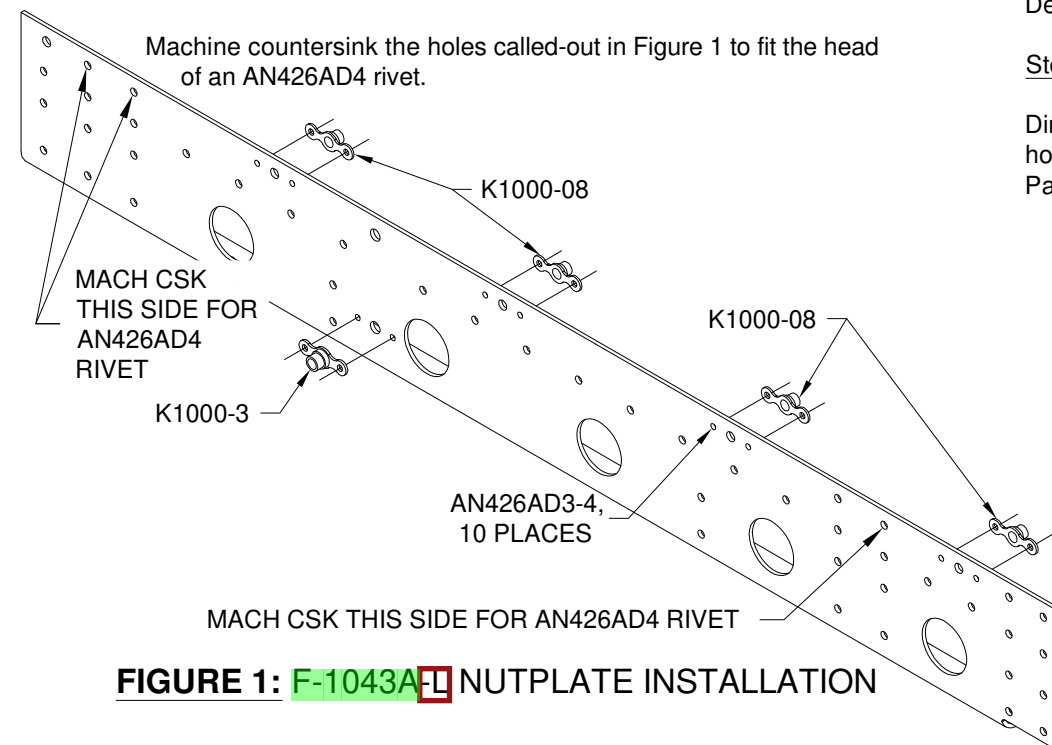

FIGURE 1: F-1043A-L NUTPLATE INSTALLATION
Step 6 (continued): Machine countersink the nutplate attach holes in the web of the fwd fuselage bulkheads to fit the head of an AN426AD3 rivet. See Figure 1.